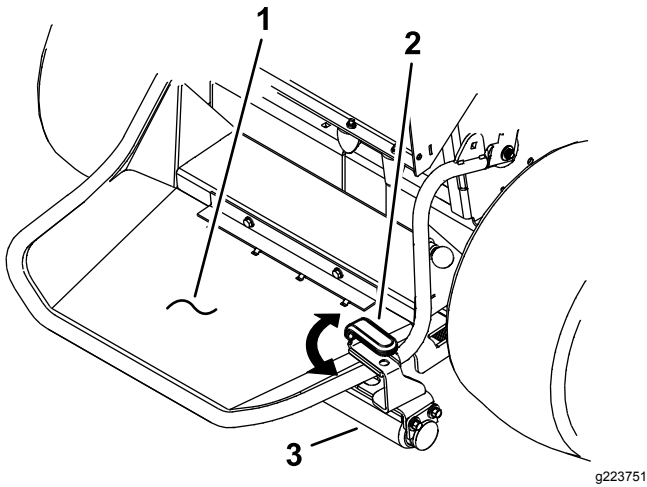

Figure 7
3. With the platform down, raise the roller up, and rotate the lift handle over the platform (Figure 7).